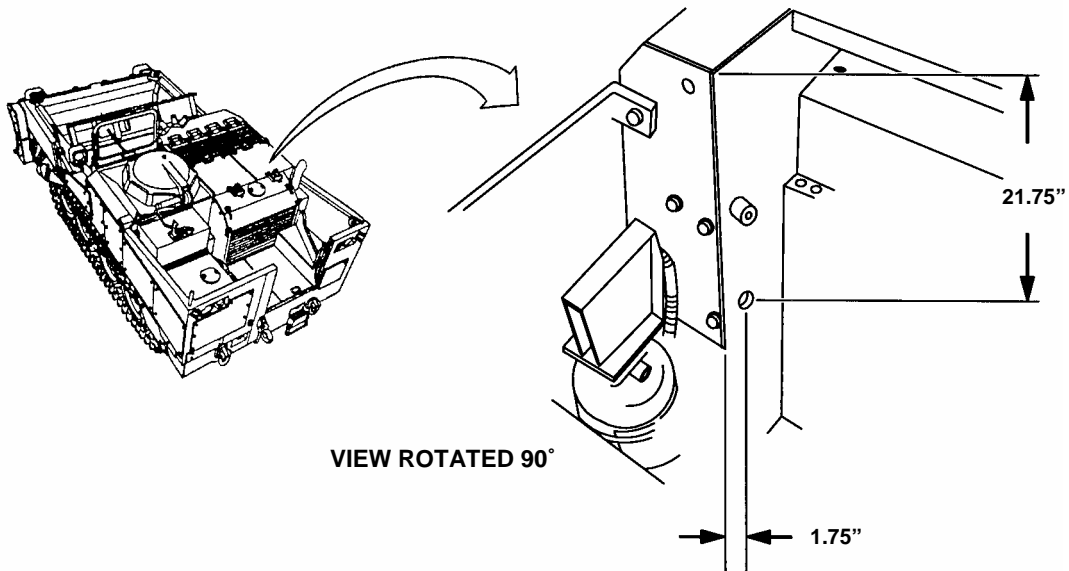

Figure 2-11. Blade Folder Hose Clamp Holes (1 of 2).
2. Drill 0.3125 inch (7.937 mm) diameter hole (Figure 2-11) on hull plate next to radiator and cut threads using 3/8" - 16 tap.